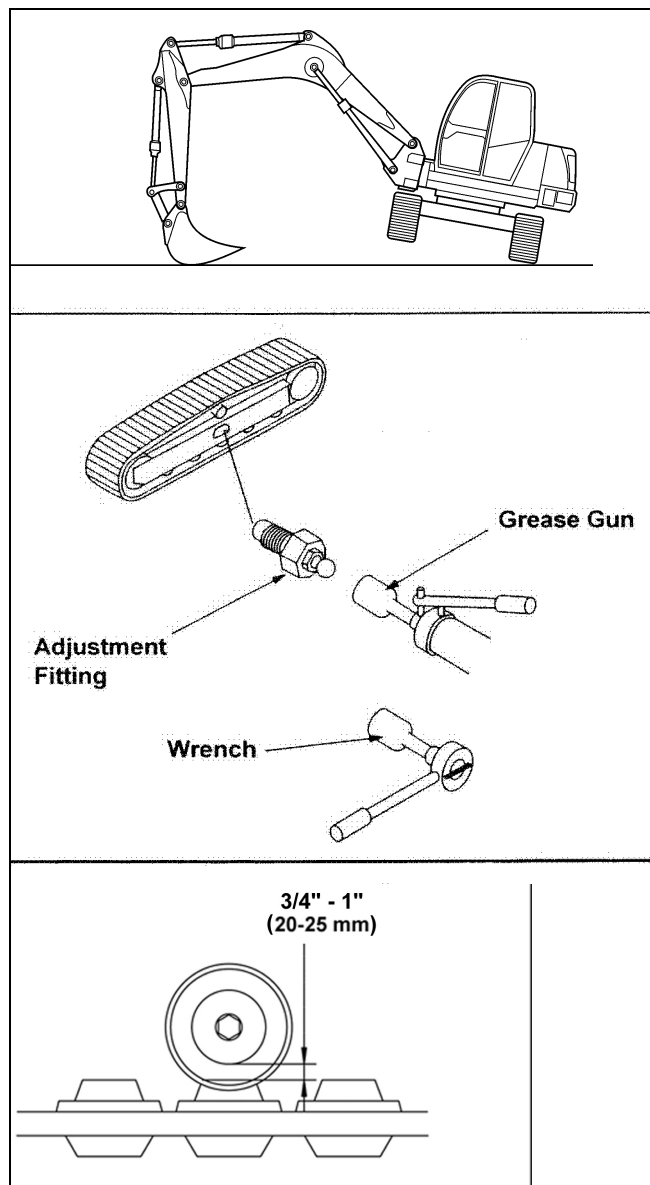

Figure 4-21 Track Adjustment
2. Use the bucket and dozer blade to lift the unit up until a track is just clear of the ground as shown in Figure 4-21.
5. Using a grease gun, pump grease into the fitting until the track is properly tensioned (Figure 4-21).